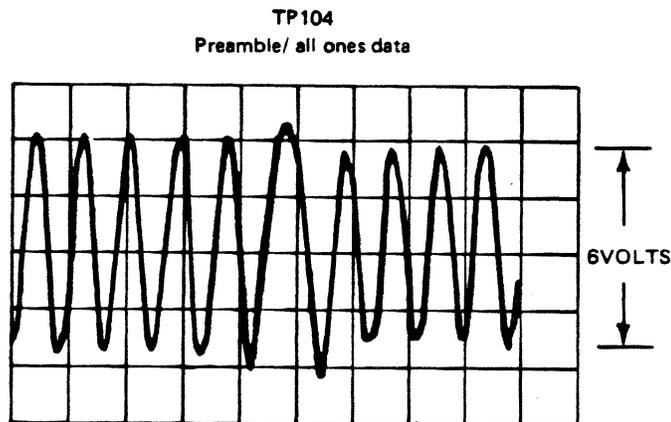

Figure 5-7. Amplifier Waveform (TP104)
- h. Adjust potentiometer R111 until the analog signal displayed on the oscilloscope is 6 volts peak-to-peak. (Refer to figure 5-7).